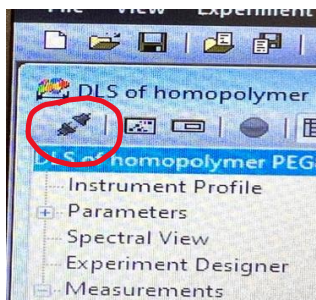

Fig 3 Red circle button is the connector between laptop and instrument.
8. On top left side, click on the plug sign (Fig 3) to connect your laptop with the instrument.